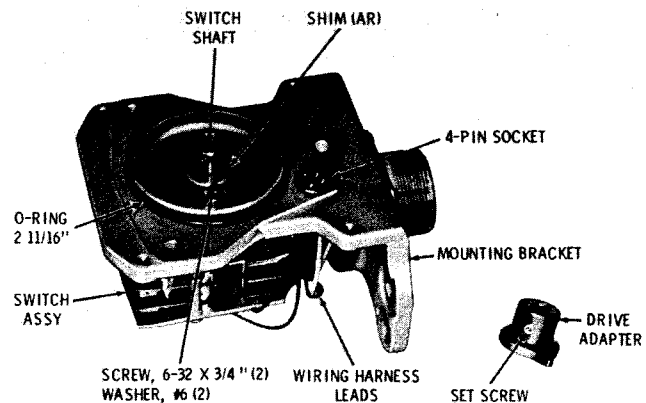

Fig. 4-12. Mounting bracket and shaft-end of switch
(23) Disconnect all of the wiring harness leads from the switch assembly (fig. 4-12). Remove two screws and washers that retain the switch assembly. Remove the switch assembly.
(24) Remove the 4-pin socket only if replacement is necessary (fig. 4-12).
(7) Install one shim 19 (foldout 2), darker side first, onto the switch shaft (fig. 4-12).
(8) Install the drive adapter (fig. 4-12). Position the adapter lightly against the mounting bracket, and tighten the set screw against the flange on the switch shaft.
(9) If the bushing was removed from the selector body, press a new bushing into the body until it is flush with the hub of the body. Hone, or ream, the bushing bore until rotary key 29 (foldout 2) will fit the bore and can be rotated with finger torque only. Install the rotary key (without O-ring 14). Install the selector body onto the mounting bracket, engaging the tongue of the drive adapter with the slot in the rotary key. Retain the body with three 5/16-18 x 5/8-inch socket-head screws and lockwashers.
(16) Install the 2 11/16-inch O-ring onto the mounting bracket (fig. 4-12).